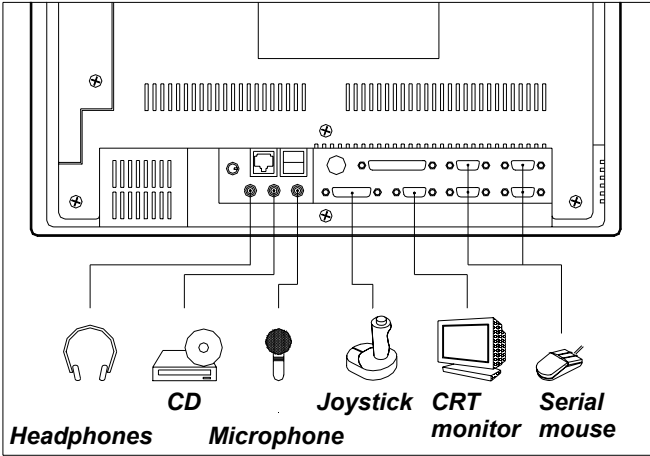

Figure 3.5: I/O interface (excluding COM ports)
2. Attach the interface cable of the serial device to the panel PC's serial port. (See Fig. 3-5.) If necessary, attach the other end of the interface cable to your serial device. Fasten any retaining screws.
2. Connect the external monitor to the system. (See Fig. 3-5.)
2. Connect the external joystick or game device to the system. (See Fig. 3-5.)
The audio interface includes three jacks: microphone in, line out and line in. (See Fig. 3-5.) Their functions are:
1. Connect the audio device to the system. (See Fig. 3-5.)